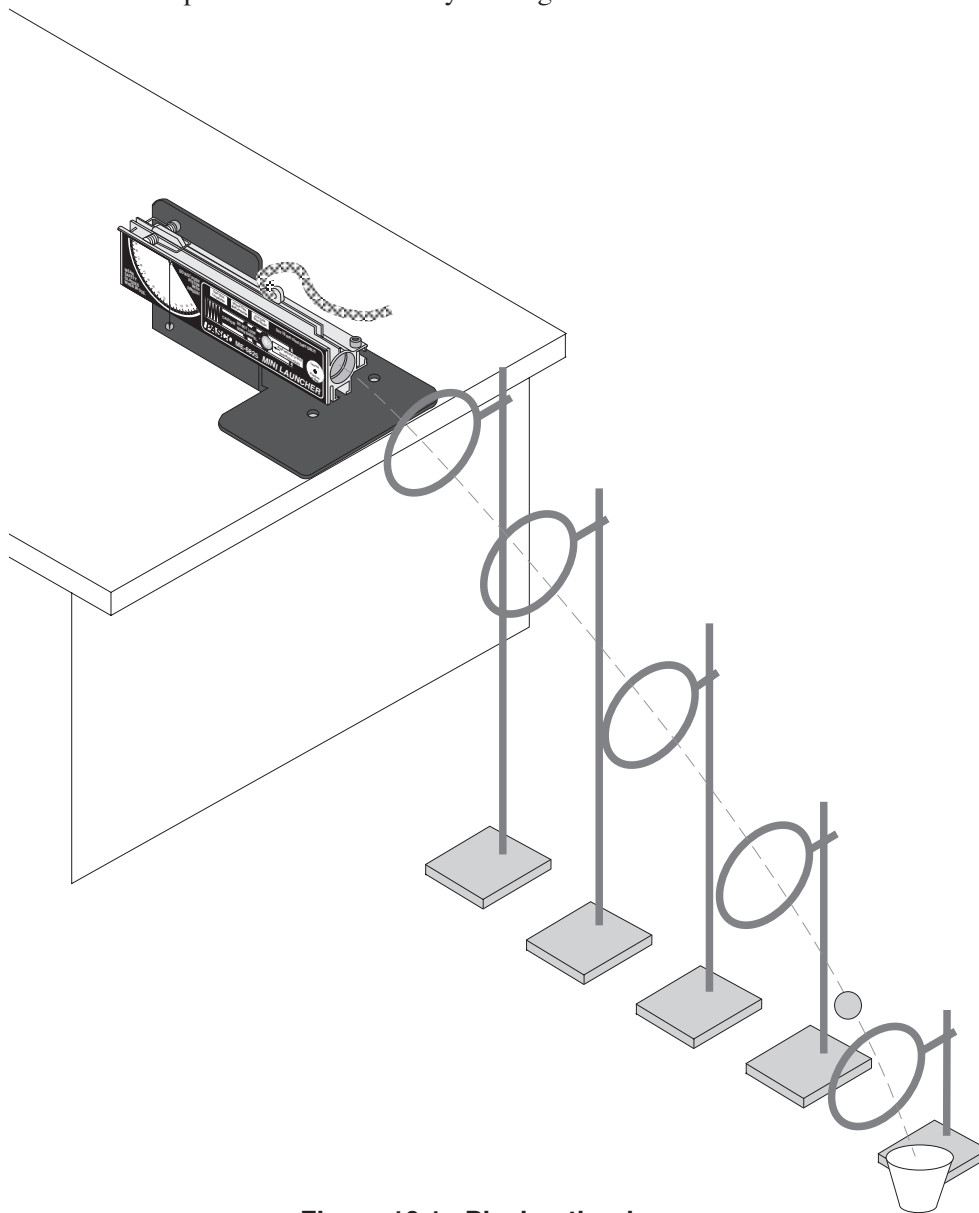

Figure 10.1: Placing the rings
- ② Calculate the horizontal and vertical positions of the ball each  $1/10$  second until it hits the floor.
- ③ Lay the 2-meter stick on the floor in a straight line away from the Launcher.
- ④ Measure off each set of  $x$  and  $y$  and place a ring clamp on a stand at each position (See Figure 10.1). If possible it is best to adjust the last two ring stands at an angle from the vertical so the ball will not have to pass through them at an oblique angle. A cup may be placed at the end of the path to catch the ball.
- ⑤ Shoot the ball through the rings.
- ⑥ Ask the class what shape of curve is formed by the rings.